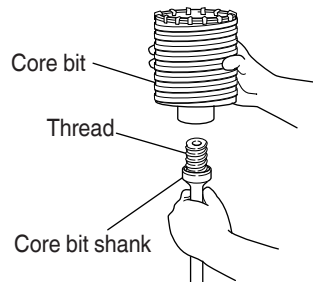

Fig. 18
- (1) Mount the core bit to the core bit shank. (Fig. 18)